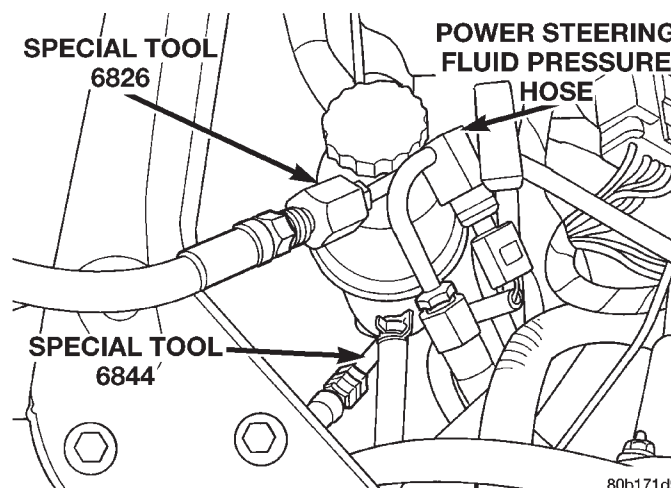

Fig. 8 Analyzer Connected To Power Steering Pump (2.7L Engine)
(4) **2.7L engine** — Connect Adapter Fitting, Special Tool 6844 (Fig. 8), attached to pressure hose from inlet (gauge end) of Power Steering Analyzer to the pressure fitting on the power steering pump.